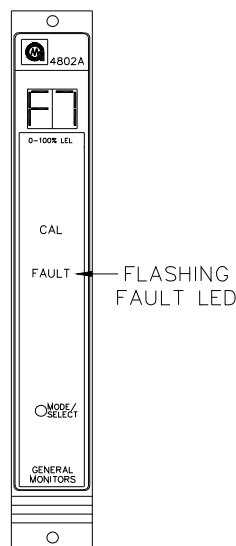

Figure 24: F7 Display during CAL Mode
- Remove the gas and watch the display return to normal operation, **0**, when the new calibration values have been stored in the EEPROM. If the unit cannot store the new calibration values in the EEPROM, the Model 4802A will display an “**F7**” fault code (EEPROM verification failure, Figure 24). If an **F7** calibration fault occurs, it will be necessary to replace the Model 4802A.